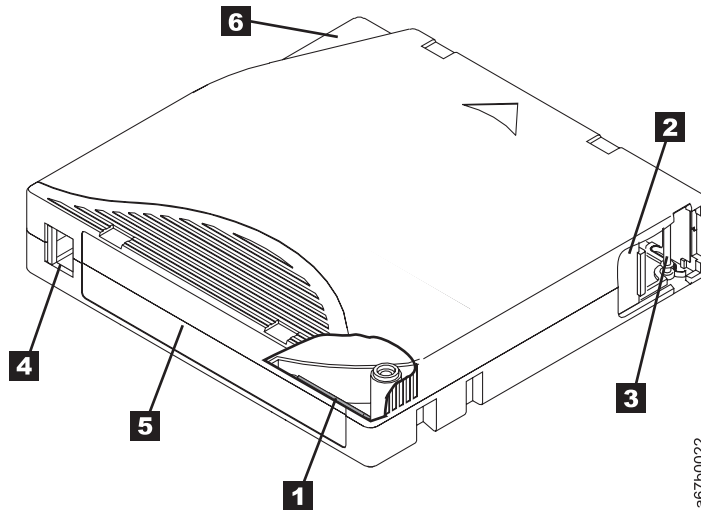

Figure 114. The IBM TotalStorage LTO Ultrium 200 GB Data Cartridge
Figure 114 on page 144 shows the TotalStorage LTO Ultrium 200 GB Data Cartridge and its components.
All generations of the IBM LTO Ultrium Data Cartridge includes a Linear Tape-Open Cartridge Memory (LTO-CM) chip ( **1** in Figure 114 on page 144), which contains information about the cartridge and the tape (such as the name of the manufacturer that created the tape), as well as statistical information about the cartridge's use. Whenever you unload a tape cartridge, the Autoloader writes any pertinent information to the cartridge memory.
The cartridge door ( **2** in Figure 114 on page 144) protects the tape from contamination when the cartridge is out of the drive. Behind the door, the tape is attached to a leader pin **3**. When you insert the cartridge into the drive, a threading mechanism pulls the pin (and tape) out of the cartridge, across the drive head, and onto a non-removable takeup reel. The head can then read or write data from or to the tape.
When attaching a bar code label to a tape cartridge, place the label only in the recessed label area (see **5** in Figure 114 on page 144). A label that extends outside of the recessed area can cause loading problems in the drive or the library.
- Position the label within the recessed label area (see **5** in Figure 114 on page 144).
- Do not drop the cartridge. If the cartridge drops, slide the cartridge door back and ensure that the leader pin is properly seated in the pin-retaining spring clips (see **2** in Figure 114 on page 144). If the leader pin has become dislodged, go to “Repositioning or Reattaching a Leader Pin” on page 152.